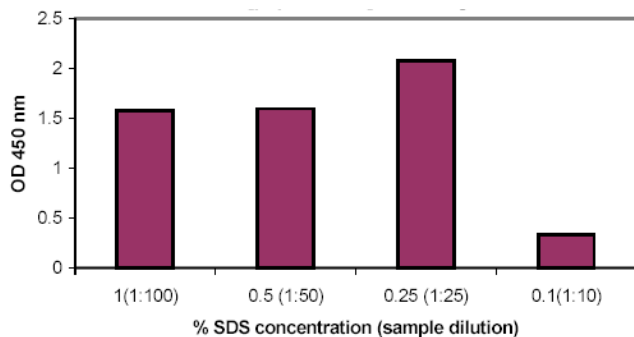

Fig.1 Effect of SDS concentration in cell extracts on Erk (pThr¹⁸⁵/pTyr¹⁸⁷) signal
- The treatment chosen should be optimized for each experimental method. Figure 1 and 2 show the examples of both treatments:
- The data in Figure 1 show that cell extracts with the addition of 0.25-1% SDS generate higher signals than the extract with 0.1% SDS.